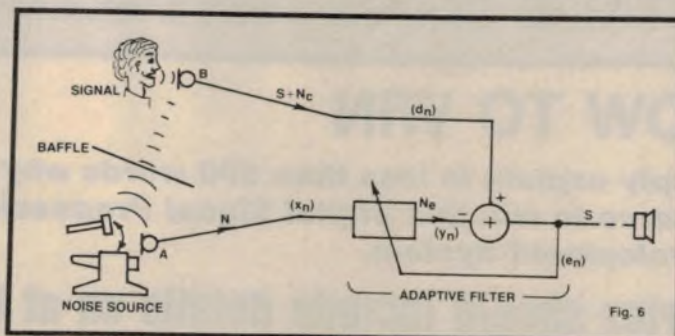

Fig.6: adaptive noise cancelling. The adaptive filter's feedback error signal (e_n) forms the output.
Noise cancelling systems require two inputs, one input containing the desired signal (S) and the corrupting noise (N_c), the other containing just noise (N) (Fig.6). The two noise signals (N and N_c) are related but still differ in amplitude, phase and spectral make-up, due to the geographical separation of the microphones, and the possible presence of baffles or other objects. Therefore, a straight subtraction of the two signals produces little or no cancelling effect.